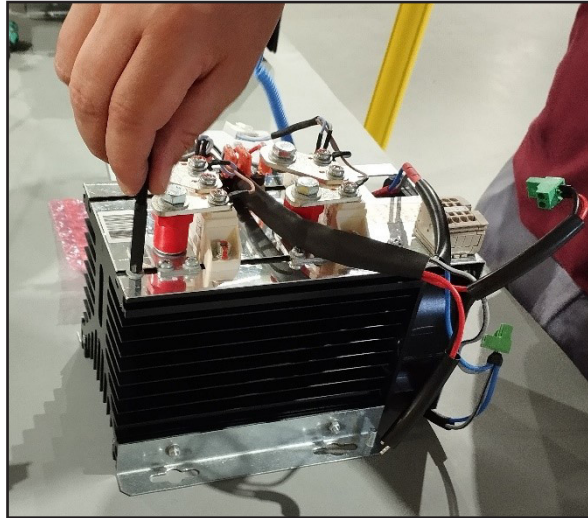

Figure 1: Step 1.
- 1.- Place the thyristor module on a flat surface, install the 4 washers and the 4 rods of 80 mm, **Figure 1**.